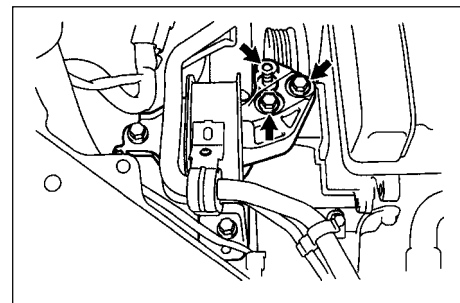

Figure 1-8
- (1) Hoist the engine a bit with lifting equipment;
- (2) Remove 2 bolts, and disengage the right support of the engine (see Figure 1-8);
- (3) Remove 2 bolts, and disengage the left support of the engine;
- (4) Remove one bolt, 3 nuts and disengage the rear support of the engine;
- (5) Remove the engine together with the drive bridge and place them on the floor;
- (6) Lift the body.